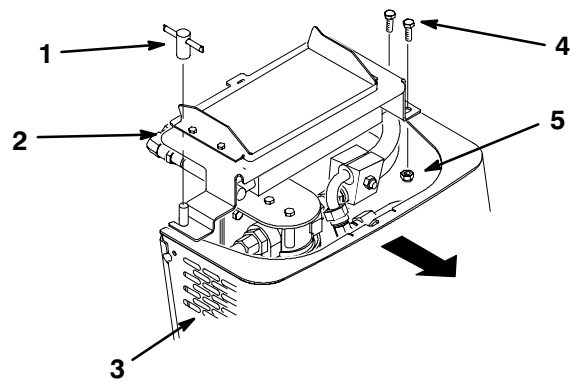

Figure 22
3. Remove the T-handle, shoulder bolts, double washer, and nuts securing the oil cooler to the top of the front screen (Fig. 22).